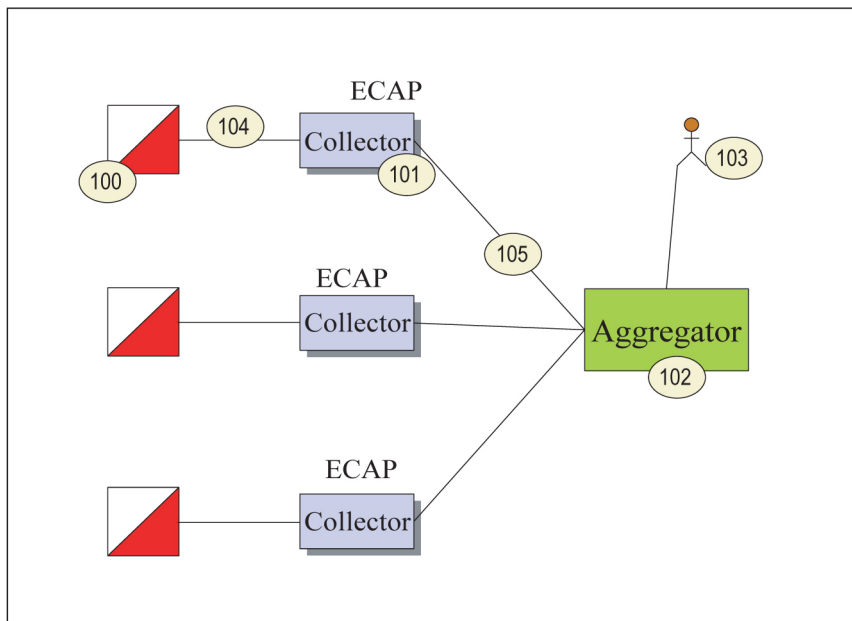

Figure 2: Integrated Accounting Feed Architectural Overview
Figure 2: Integrated Accounting Feed Architectural Overview provides a high-level architectural view of the Integrated Accounting Feed application as it runs on the ECAP system. The EAGLE 5 ISS (100) connects to the Collector (101) via a direct connected Ethernet cable. The data feed from the EAGLE 5 ISS to the Collector is the STP LAN feature running on one or more SLAN cards (104). The Collector runs on the T1100/T1200 series of Tekelec Servers. The set of Collector hardware and software (the Integrated Accounting Feed application) is considered the ECAP.
Table 4: Integrated Accounting Feed Architecture Terms defines the terms used in *Figure 2: Integrated Accounting Feed Architectural Overview*.